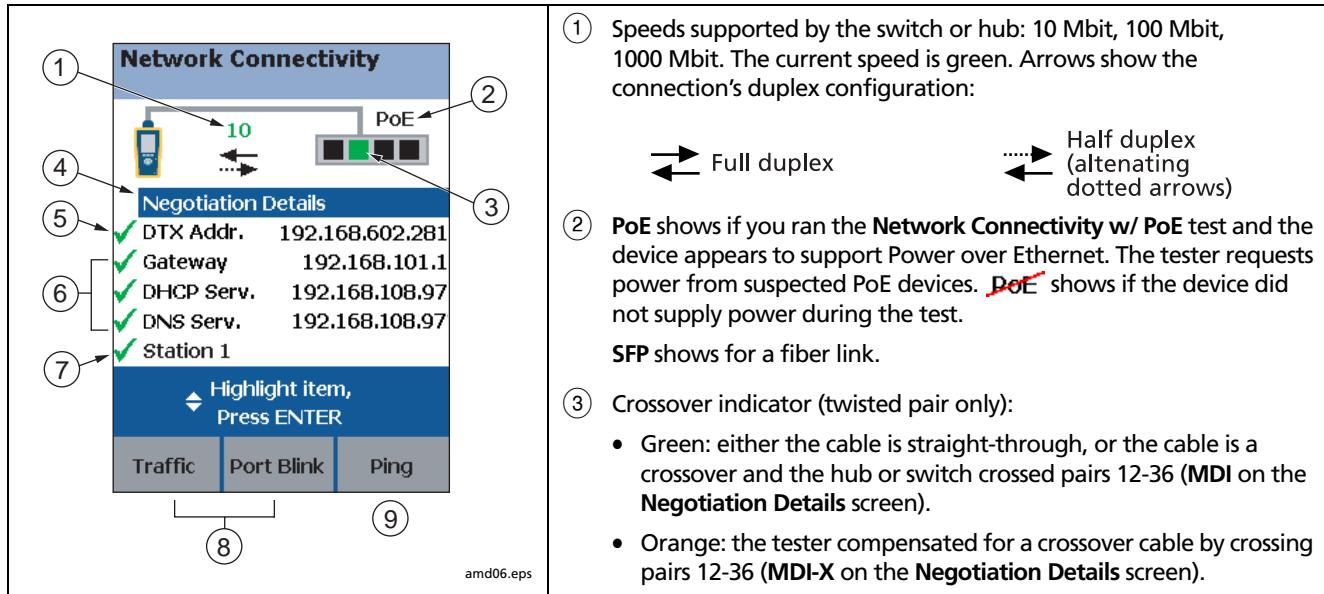

Figure 25. Network Connectivity Results Screen (DHCP example for twisted pair)
- 4 Press . Figure 25 describes the network connectivity results.